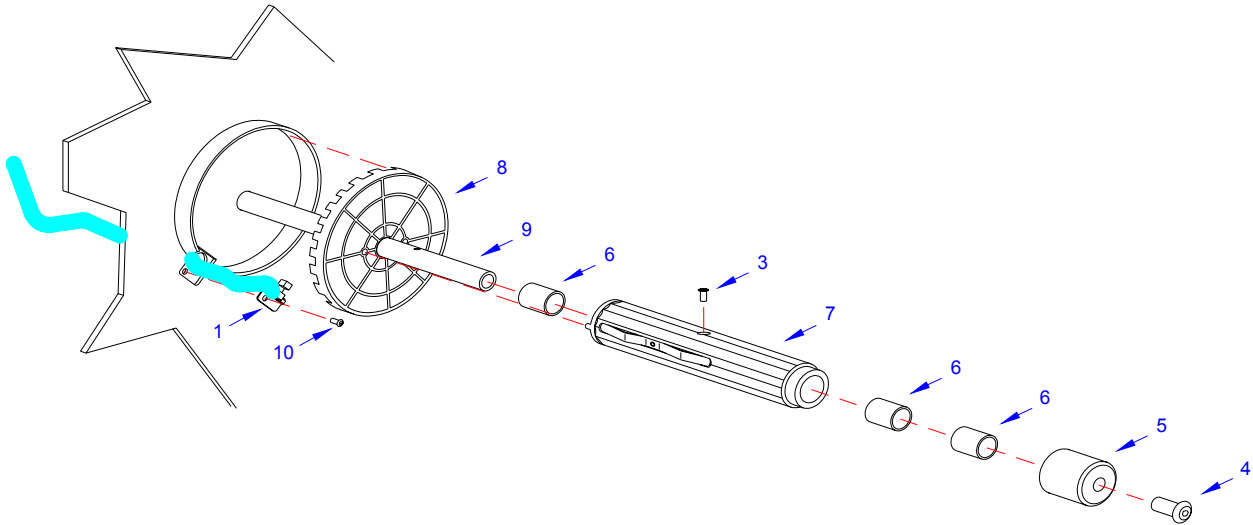
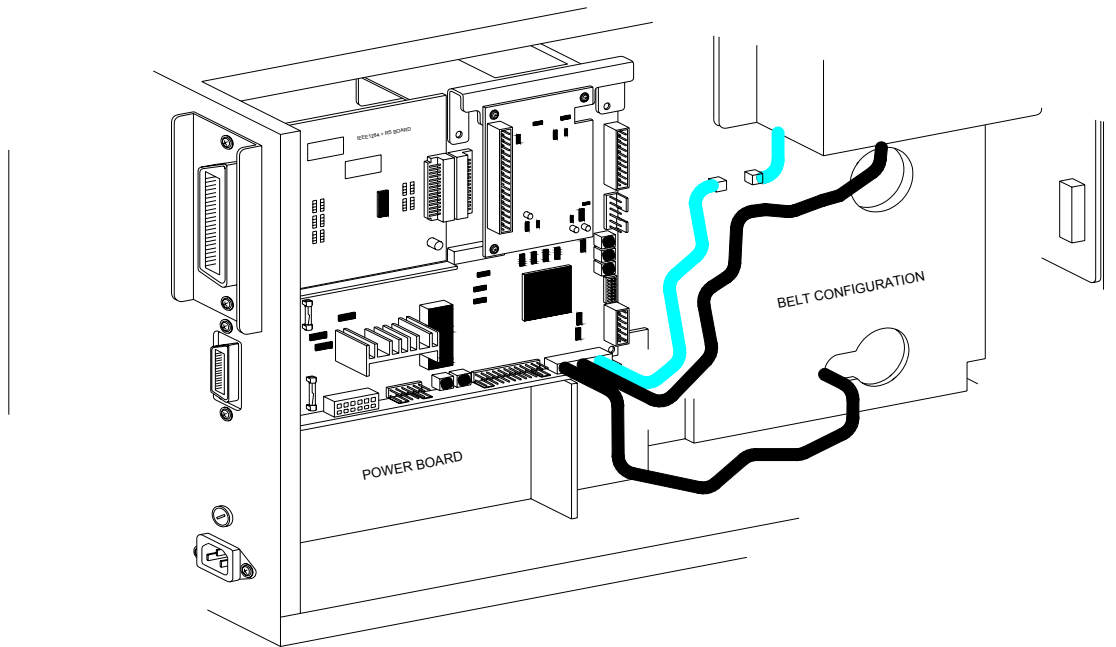

Figure 7-21, Ribbon Sensor Replacement
Figure 7-22, Wiring Harness Connection
- 3 Remove ribbon to allow access to ribbon sensor (1, Figure 7-21) and supply assembly (2).
- 4 Remove screw (3) and screw (4) from ribbon supply assembly (2).
- 5 Withdraw boss cap (5), two collars (6), ribbon boss (7), another collar (6), and disk plate (8) from ribbon supply shaft (9) consecutively.
- 6 Disconnect the wiring harness of ribbon sensor (1) from the main circuit board.
- 7 Remove screw (10) securing ribbon sensor (1) to printer frame. Lift away sensor (1).
- 8 Route replacement sensor (1) through printer frame.
- 9 Secure replacement sensor (1) to printer frame using screw (10).
- 10 Apply disk plate (8), a collar (6), ribbon boss (7), two additional collars (6), and boss cap (5) onto ribbon supply shaft (9) and secure with screw (4).
- 11 Align orifices of boss (7) and shaft (9) and apply screw (3).
- 12 Connect wiring harness of replacement ribbon sensor (1) to main circuit board. Refer to Figure 7-22 for guidance.